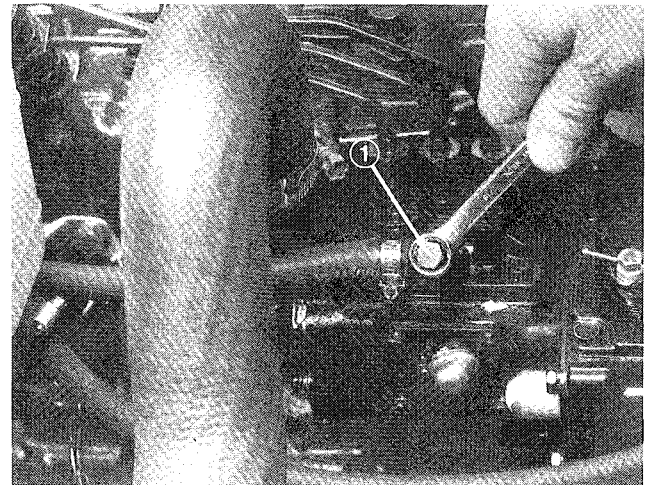

Figure 27
4. Open the air bleed screw on the fuel injection pump (Fig. 27) with a 10 mm wrench.